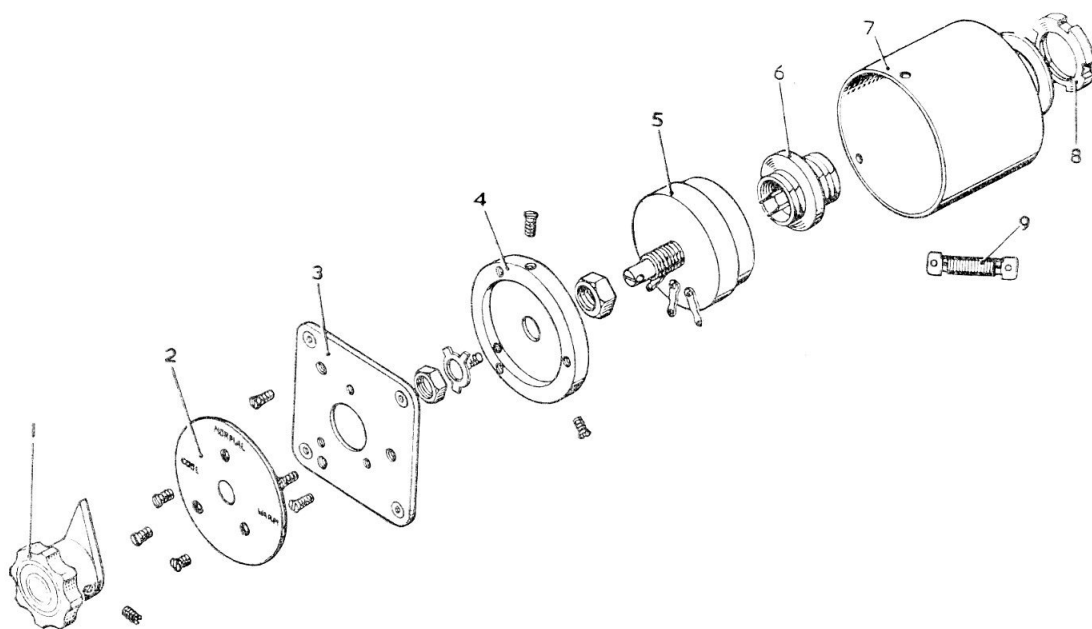
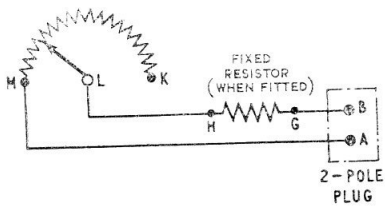

Fig. 2. Exploded view of typical temperature selector, Type FHK.
Fig. 4. Typical temperature selector,
5. The potentiometer (5, *fig. 2 and 3*), is secured to a mounting disc (4) of aluminium alloy, by means of two panel mounting nuts and a tab washer. A square mounting plate (3) of aluminium alloy, is secured to the face of the mounting disc (4) by three countersunk head screws. A graduated anodised aluminium dial (2), is secured to the face of the mounting plate also by three countersunk head screws. The four hank rivet bushes (screwed rivet bushes), one at each corner of the mounting plate, are for panel mounting the selector. The spindle projects through the centre of the dial, and a Bakelite knob and pointer (1) is secured to the end of the spindle by a grub screw.
6. A brass cover drum (7), upon which is mounted a 2-pole Mk. 4 plug (6), encloses the potentiometer and mounting disc, being secured to the latter by three countersunk head screws. The potentiometer, brush, and (where fitted) fixed resistor connections, are taken within the cover drum to the plug. Where a fixed resistor is fitted and is external to the potentiometer (9), it is secured by two bolts and two tubular mounting pillars to the inside of the cover drum.
7. The circuit diagram of a typical selector is shown in *fig. 4*.
A resistor, external to the potentiometer, of value 370 ± 1 ohms is fitted in this selector. The internal connections are as shown in fig. 4 of the main chapter. The dial markings are COOL, NORMAL and WARM.
A resistor, external to the potentiometer and of value 421 ± 1 ohms, is fitted in this selector; the internal connections are as shown in fig. 4 of the main chapter. The dial is marked COOL, NORMAL and WARM, and in addition has 10 lines.